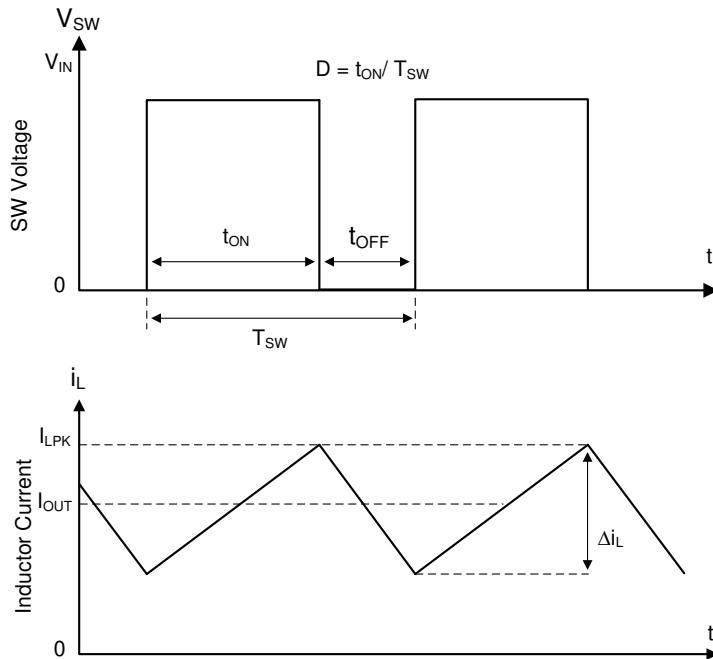

图 7-1. SW Node and Inductor Current Waveforms in Continuous Conduction Mode (CCM)
The following operating description of the LMR514x0-Q1 refers to Functional Block Diagram and to the waveforms in 图 7-1. The LMR514x0-Q1 is a step-down synchronous buck converter with integrated high-side (HS) and low-side (LS) switches (synchronous rectifier). The LMR514x0-Q1 supplies a regulated output voltage by turning on the high-side and low-side NMOS switches with controlled duty cycle. During high-side switch ON time, the SW pin voltage swings up to approximately V_{IN} , and the inductor current, i_L , increases with linear slope $(V_{IN} - V_{OUT}) / L$. When the high-side switch is turned off by the control logic, the low-side switch is turned on after an anti-shoot-through dead time. Inductor current discharges through the low-side switch with a slope of $-V_{OUT} / L$. The control parameter of a buck converter is defined as Duty Cycle $D = t_{ON} / T_{SW}$, where t_{ON} is the high-side switch ON time and T_{SW} is the switching period. The converter control loop maintains a constant output voltage by adjusting the duty cycle D . In an ideal buck converter, where losses are ignored, D is proportional to the output voltage and inversely proportional to the input voltage: $D = V_{OUT} / V_{IN}$.